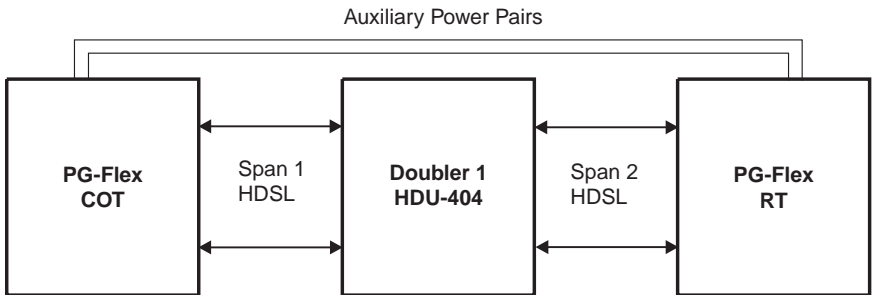

Figure 1. Typical HDU Installation with PG-Flex
Figure 1 shows a typical HDU-404 List 2 installation for the PG-Flex subscriber carrier system. For each doubler installed between the PG-Flex Central Office Terminal (COT) and Remote Terminal (RT), two auxiliary power pairs are required. A maximum of two doublers may be installed in a PG-Flex system. With two doublers, four sets of auxiliary power pairs must be installed between the COT and the RT. These auxiliary power pairs must be the same wire gauge (or larger) as the pairs used for HDSL.